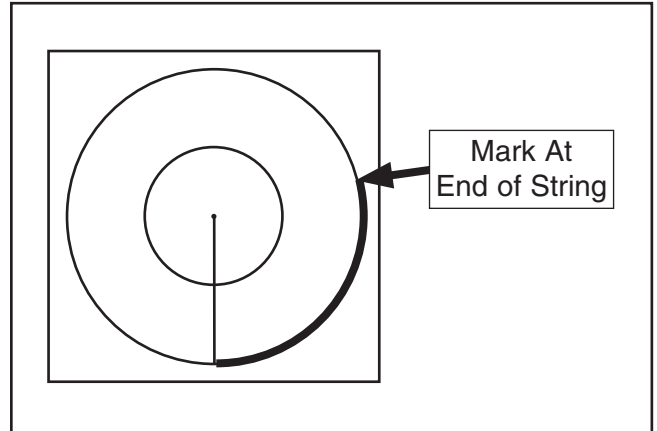

Figure 46. Using string to mark large circumference value.
8. Lay **LargeC** string over outer circle line, beginning at line marked in **Step 6**, and mark outer circle at end of string (**Figure 46**).